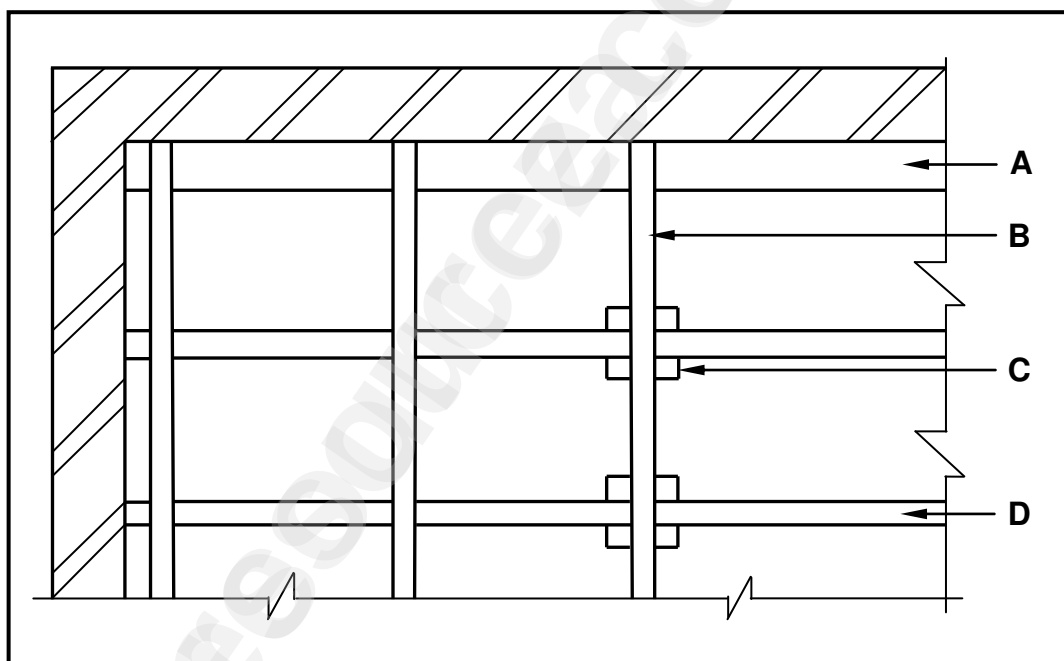

FIGURE 6.9
6.9 FIGURE 6.9 below shows a part of the top view of a suspended timber floor.
6.9.2 Draw on ANSWER SHEET 6.9.2 where the detail of the suspended floor in FIGURE 6.9 has been omitted, FOUR tongue and groove floorboards. The tongue and groove boards must run in length parallel to the long wall. NO hidden details are required. (4)